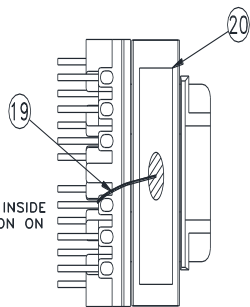

Figure 1
1. Solder leadwire, item 19, to copper foil tape, item 20. Apply copper foil tape to one core half to shield. Reference figure 1.
3. Core mating surfaces must be clean. Assemble core halves to coil with shielded core half on terminal 1-6 side and core tape core half on terminal 7-14 side and secure with 2 layers of core tape. Route and solder leadwire to terminal #4 as shown in Figure 1.